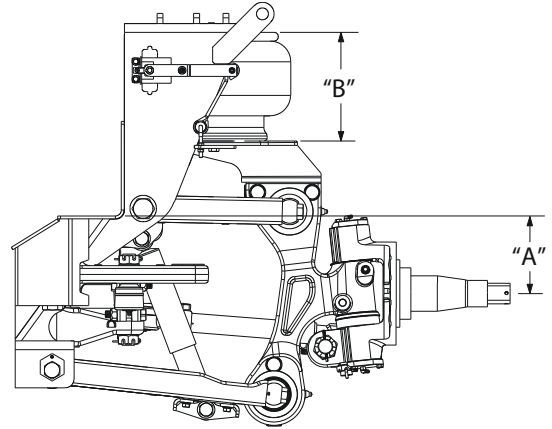

Figure 8 - Ride Height Measurement
3. Verify the ride height by measuring from wheel center to the bottom of the frame ("A") or air spring height ("B"). If the dimensions are not within $\pm .125$ " of (Figure 8), readjust.
4. The actuation arm of the height control valve should be horizontal at ride height (Figure 8). See section for adjusting to correct ride height.